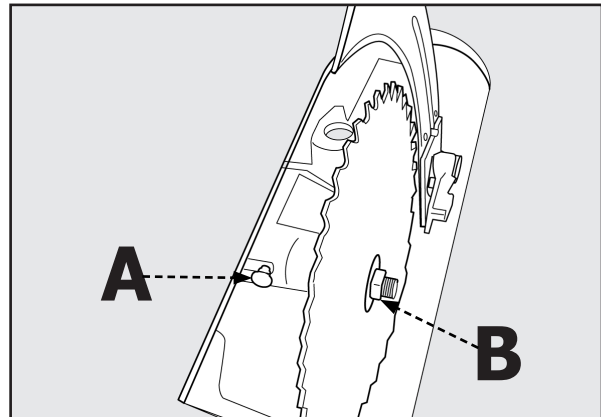

FIGURE 17
2. Push and hold arbor lock button (A) shown in Figure 17.
3. Use included arbor wrench to remove the blade by turning counter clockwise and retaining nut and flange (B). Remove old blade.